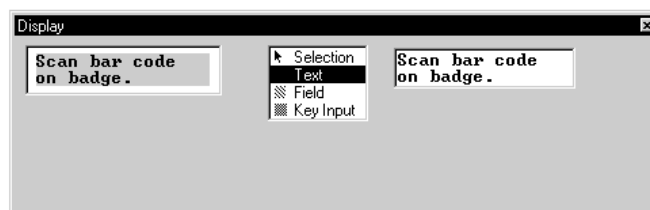

Figure 4-67 "Instruct1" Handler Display Message Entered
40. Press <Enter> to accept the text entry. The entered text appears in the display area at the left of the **Display** window (Figure 4-67).